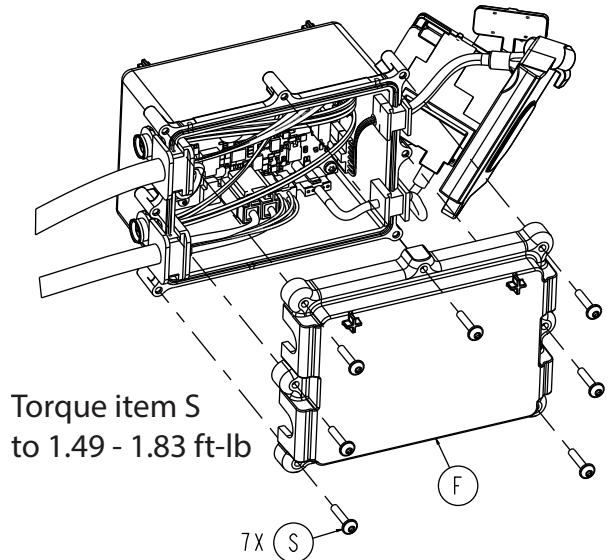

Figure 59 – Remove the HBC top cover screws
10. Using a T20 Torx driver, remove the seven round washer head tapping screws (S) that secure the top cover (F) to the HBC enclosure assembly (Figure 59). Remove and save the top cover. Save the screws.